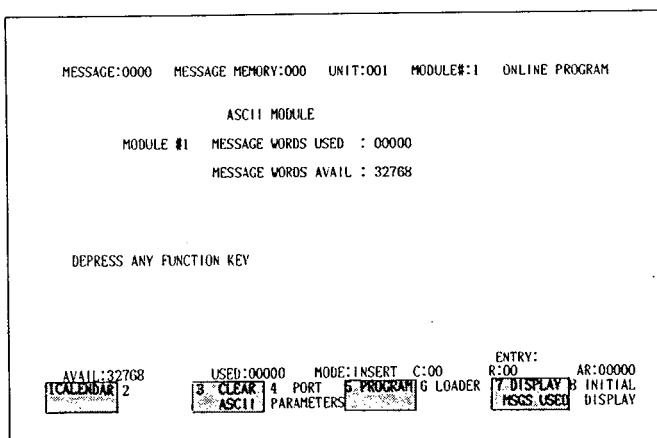

Fig. 7.18 Supervisory Display
Depressing **SUPER VISORY** key after ATTACH activation produces the display shown in Fig. 7.18, enabling the SUPERVISORY operations indicated in the label area.
5. When **CANCEL** is depressed instead of **CONFIRM**, nothing is executed, and the supervisory display (Fig. 7.18) is called up again.
- When **DISPLAY MSGS USED** is depressed in the supervisory display (Fig. 7.18), "READING USED MESSAGE NUMBERS" is displayed.
- Depressing **PREVIOUS MENU** calls up the supervisory display (Fig. 7.18) again.
- If CANCEL key is depressed instead of CONFIRM key, nothing is executed, and the supervisory display (Fig. 7.18) is called up again.
5. Depressing PREVIOUS MENU key calls up the supervisory display (Fig. 7.18) again.